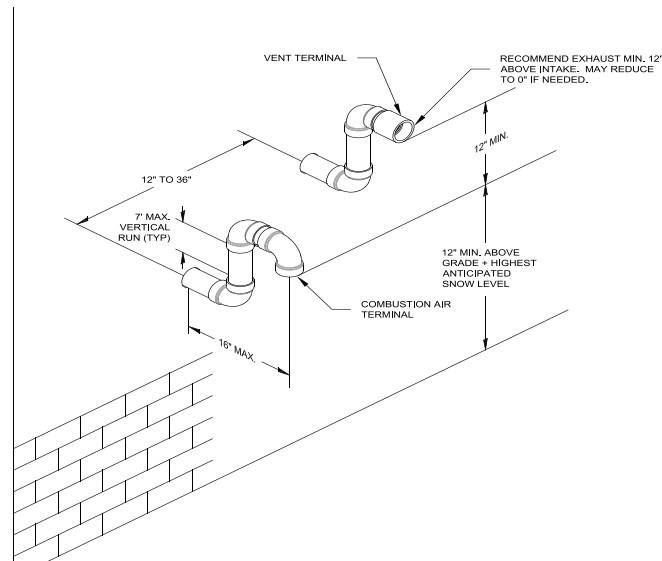

Figure 7.12: Snorkel Terminal Configuration (CPVC/PVC Vent Systems Only)
If necessary to achieve required clearance above grade, CPVC or CPVC/PVC vent systems may be terminated using fittings on snorkels as shown in Figure 7.12. When this is done, the equivalent length of all pipe on the exterior of the building, except for the terminal fittings themselves, must be counted when calculating the equivalent length. The maximum vertical run of the snorkel is 7 feet. Brace both the vent and inlet piping if required. PolyPro, InnoFlue and Polyflue may not be snorkeled.
3. PVC Terminal coupling and inlet elbow may be offset on snorkels as shown in Figure 7.12.